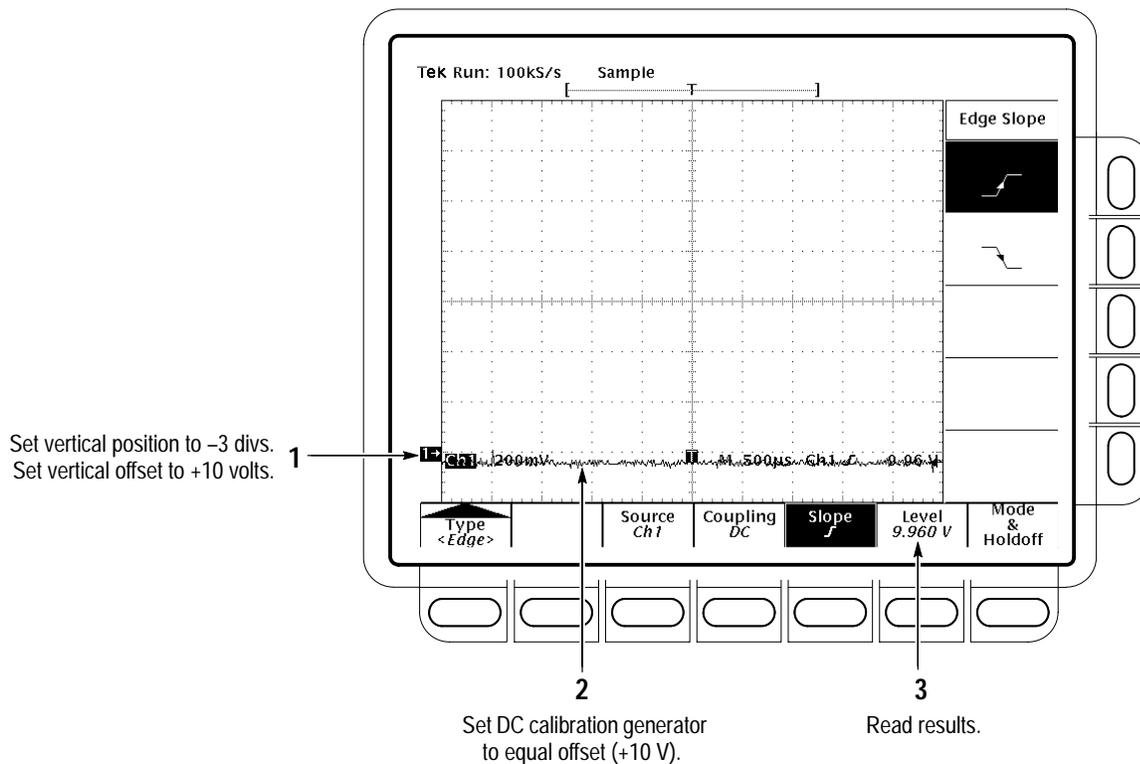

Figure 4–17: Measurement of trigger-level accuracy
c. *Read results (Check against limits):* See Figure 4–17.